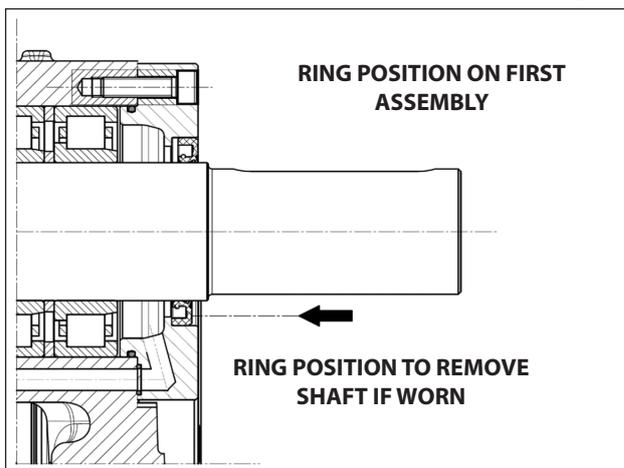

Fig. 64
Before proceeding with the assembly of the radial seal ring, verify the condition of the seal lip. If it is necessary to replace it, position the new ring as shown in Fig. 64.
**If the PTO shaft shows diameter wear corresponding to the seal lip, then to avoid grinding you can position the ring as a second step as shown in Fig. 64.**